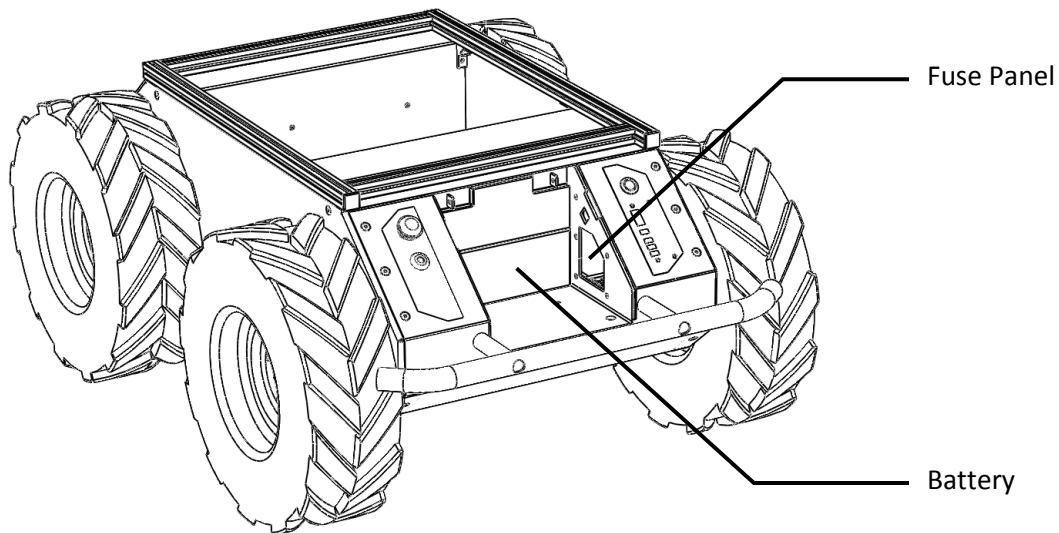

Figure 6: Husky A200 Battery Area
3. Carefully connect the battery plug to the mating connector in the fuse panel, shown in Figure 6. Ensure that it is firmly seated and clicks into place. It will be difficult to connect it in the incorrect polarity.